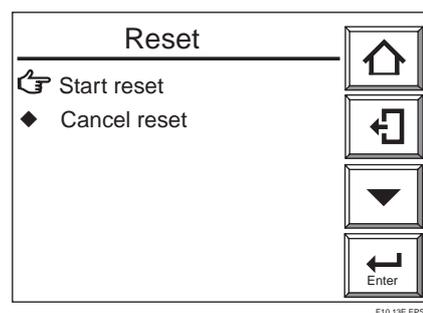

Figure 10.13 Reset Display
- (1) Press the Setup key in the Basic panel display to display the Execution/Setup display.
- (2) Choose Reset. The Reset display shown in Figure 10.13 appears.
- (3) Choose Start reset and then press the [Enter] key to reset the equipment and the equipment will then be in its warm-up state.